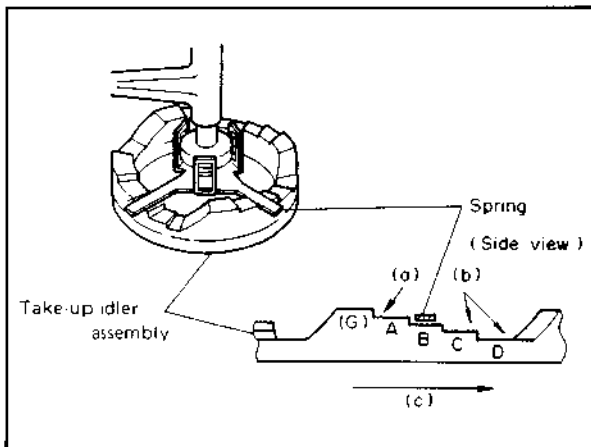

Fig. 4-12
6. If cleaning does not produce the correct torque, adjust the take-up idler coupling torque as shown in Fig. 4-12.
7. Setting the spring to a lower (direction "b") position increases the torque by approx. 30 g-cm per step. Do not set the spring at position (G).